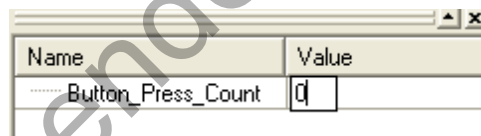

Figure 13. Modifying Variable Value in Watch Window
5. When the device is halted, click on the value field in the watch window shown in Figure 13, and change the value to 0. Then, click the **Refresh** button or select **Debug** → **Refresh** to write the new value to the device.